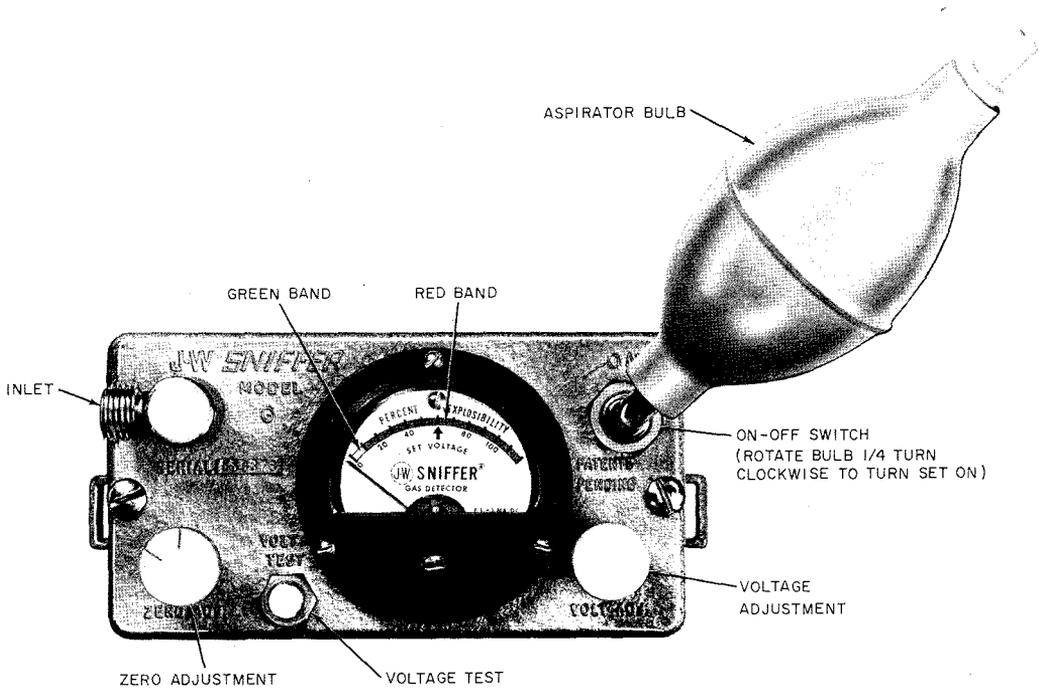

Fig. 4—Superseded E Gas Indicator
7.01 The superseded E gas indicator (Fig. 4 and 5) uses a separate filter chamber (not shown in illustration), a voltage adjustment, a separate zero adjustment and has the on-off switch attached to the bulb.